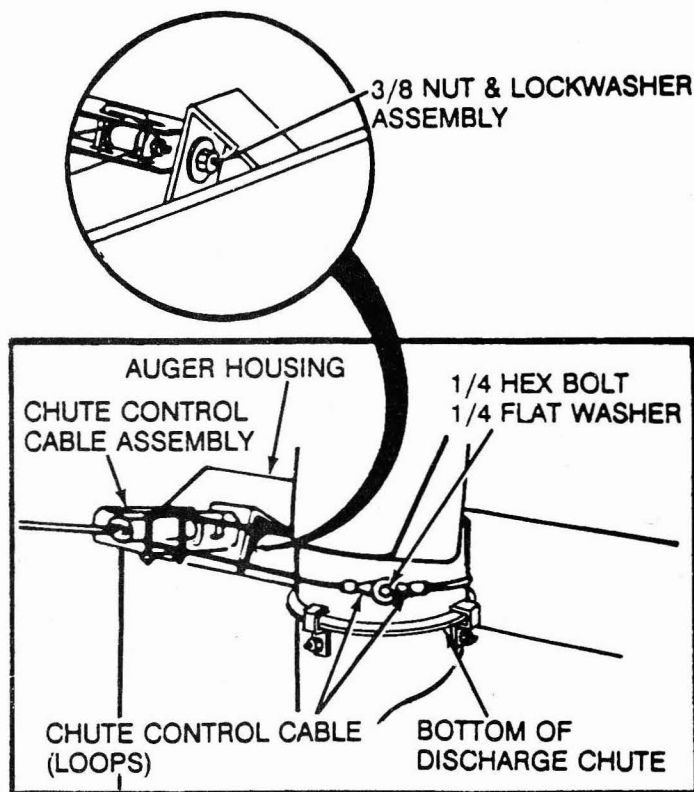

FIG. 9
- Move the Chute Control Cable up from the Stack of the Auger Housing onto the bottom of the Discharge Chute. (See Fig. 9)